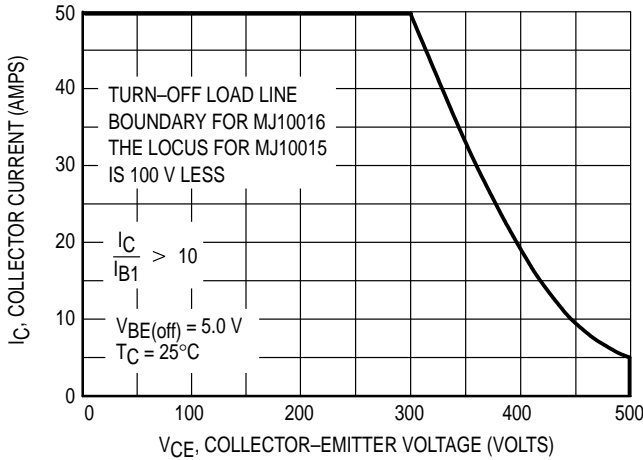

Figure 8. Reverse Bias Switching Safe Operating Area
* Adjust -V such that V_{BE(off)} = 5 V except as required for RBSOA (Figure 8).
For inductive loads, high voltage and high current must be sustained simultaneously during turn-off, in most cases, with the base to emitter junction reverse biased. Under these conditions the collector voltage must be held to a safe level at or below a specific value of collector current. This can be accomplished by several means such as active clamping, RC snubbing, load line shaping, etc. The safe level for these devices is specified as Reverse Bias Safe Operating Area and represents the voltage-current condition allowable during reverse biased turn-off. This rating is verified under clamped conditions so that the device is never subjected to an avalanche mode. Figure 8 gives the complete RBSOA characteristics.